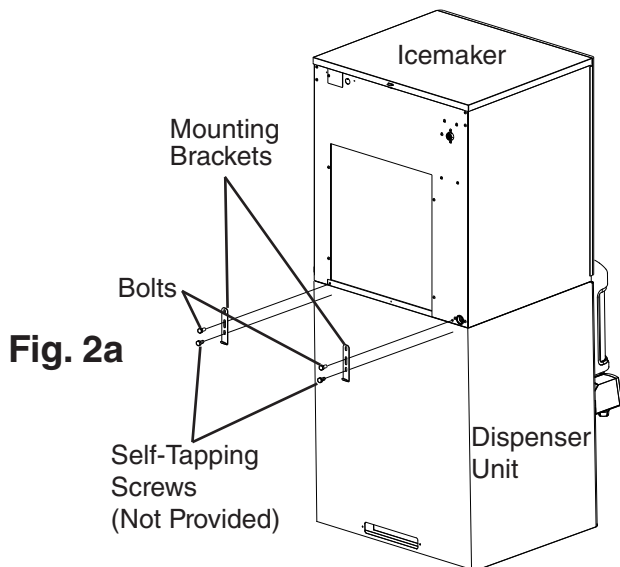

Fig. 2a
- 6a) **Dispenser Unit:** Follow the dispenser unit, adapter kit, or top kit instructions for securing the icemaker. If no instructions are available, secure the icemaker using the mounting brackets provided. Rotate the mounting brackets so that they fit flush to the dispenser unit. See Fig. 2a. Secure the mounting brackets to the icemaker with the bolts provided. Secure the mounting brackets to the dispenser unit with self-tapping screws (not provided). **NOTICE! Use care to avoid damage to dispenser unit components when attaching the mounting brackets.**